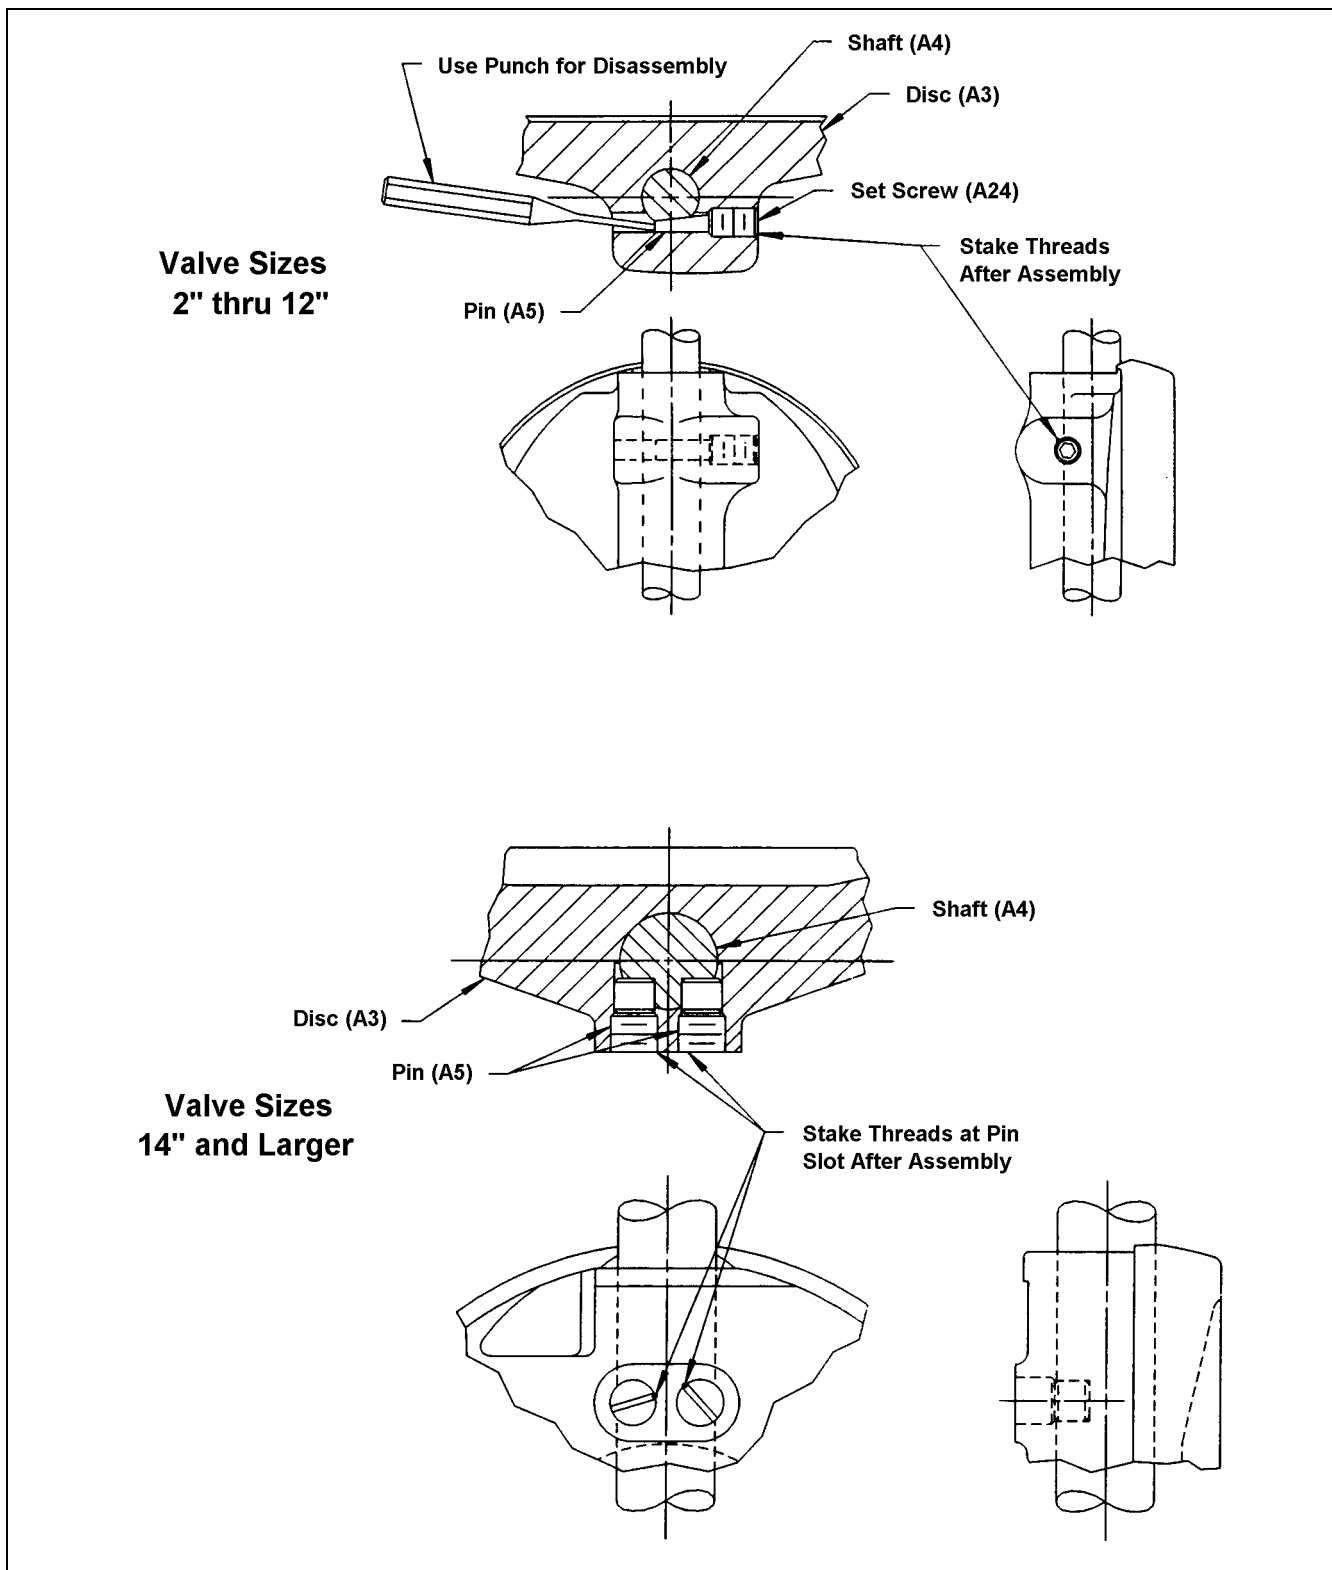

Figure 14 – Disc Pin Assembly
13. Remove the disc pin—see Figure 14 (page 28):
- b. Place the disc pin (A5) in the hole in the disc (A3) as shown in Figure 14 on page 28 and tap the end of the pin lightly to seat the pin against the flat on the shaft (A4). A new set screw (A24) is required.
- e. As shown in Figure 14 (page 28), stake the end of the set screw threads once with a pointed punch to secure the set screw in position.
- c. Use two new pins and turn the pins into the threaded holes in the disc (A3) and against the slots in the shaft (A4) as shown in Figure 14 (page 28).
- e. As shown in Figure 14 (page 28), stake the screw threads on each disc pin once with a pointed punch to secure the pins in position.